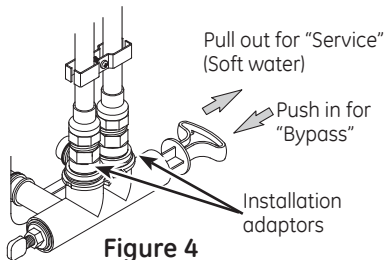
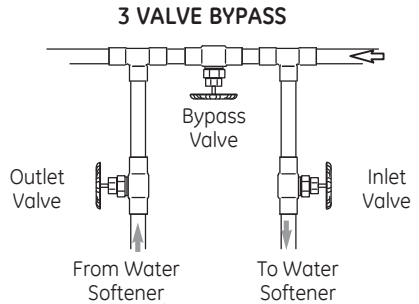

Figure 4
Figure 5
Always install either a single bypass valve (provided), as shown in Figure 4, or, if desired, parts for a 3 valve bypass system (not included) can be purchased and assembled, as shown in Figure 5. Bypass valves allow you to turn off water to the softener for maintenance if needed, but still have water in house pipes.
- Single bypass valve (Figure 4): Slowly move the valve stem toward "service," pausing several times to allow the water softener to fill with water.
- 3 valve bypass (Figure 5): Fully close the bypass valve and open the outlet valve. Slowly open the inlet valve, pausing several times to allow the water softener to fill with water.